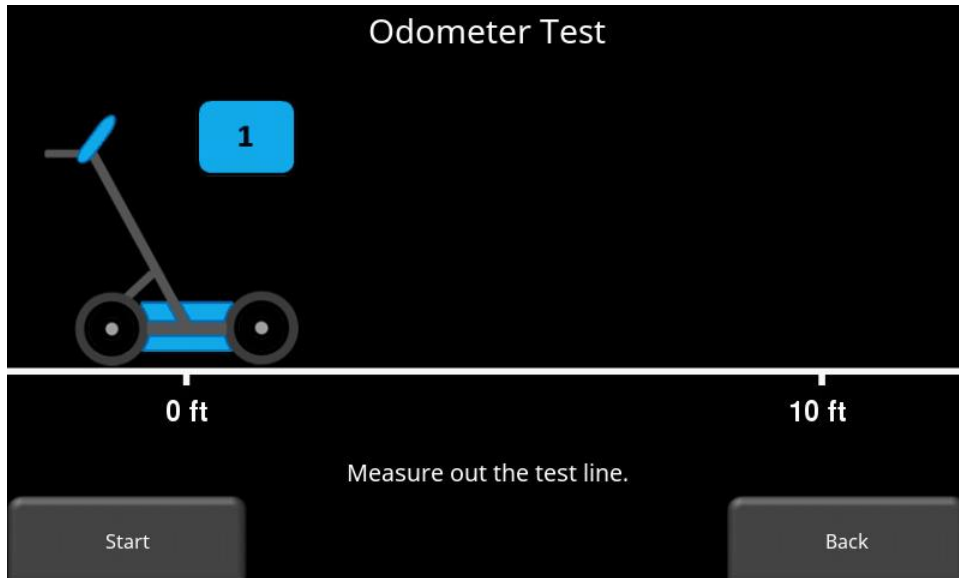
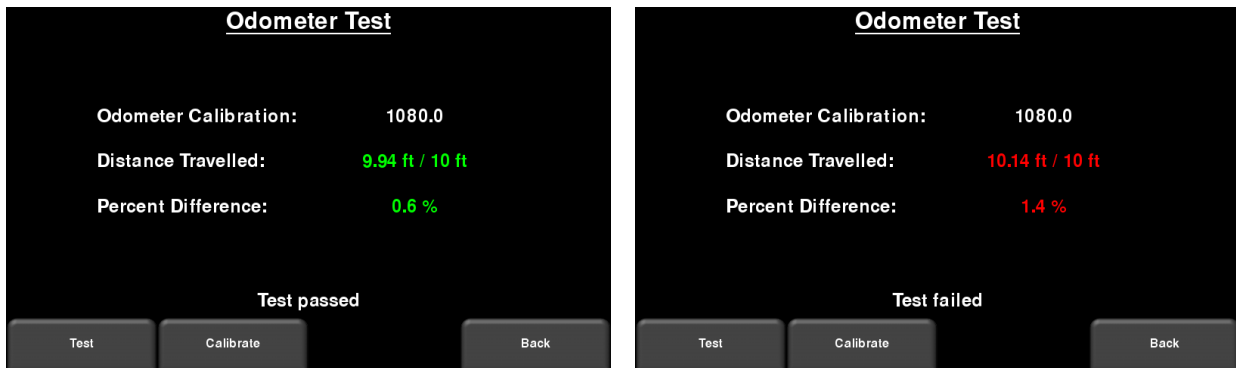

Figure 6-17: Doing an odometer test
Figure 6-18: Odometer Test passed on left, failed on the right
- **Odometer Test** – This test verifies that the odometer is calibrated properly. It involves moving the system a set distance (5m or 10', depending on units used), and comparing the value obtained to a known value. The screen in Figure 6-17 will be displayed once Odometer Test is pressed. Press **Start** to begin and then press **Finish** when you have moved that distance. It will display a pass or fail, along with a percentage difference from the known value (Figure 6-18).